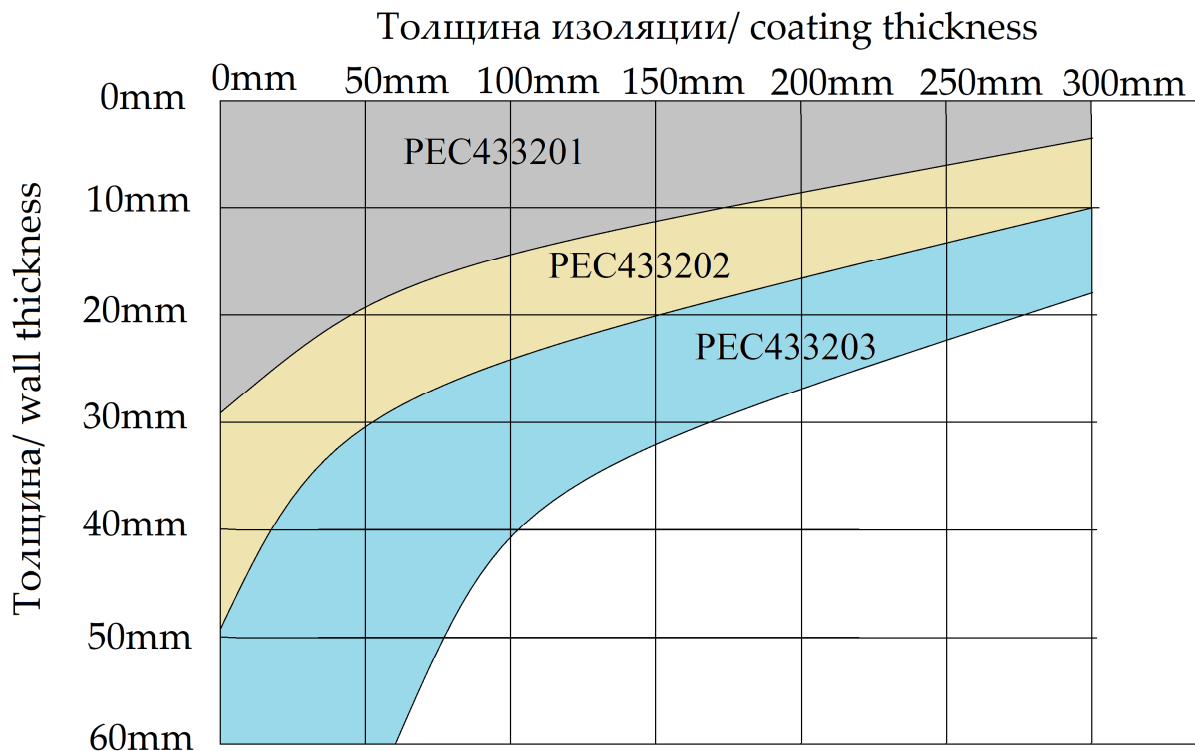

Figure 44. Diagram for sensor selection, for tin casing.
*For example:* suppose you should test a pipe with 20 mm wall thickness, 200 mm thick insulation and aluminum casing. Then, according to Figure 44, you shall use sensor PEC433203, and other transducer will not work in this case.